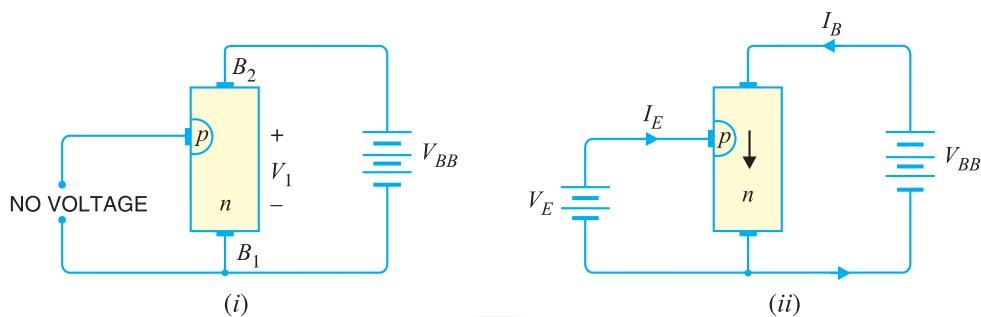

Fig. 21.25
Operation. Fig. 21.25 shows the basic circuit operation of a unijunction transistor. The device has normally B_2 positive w.r.t. B_1 .
- (i) If voltage V_{BB} is applied between B_2 and B_1 with emitter open [See Fig. 21.25 (i)], a voltage gradient is established along the *n*-type bar. Since the emitter is located nearer to B_2 , more than **half of V_{BB} appears between the emitter and B_1 . The voltage V_1 between emitter and B_1 establishes a
(ii) If a positive voltage is applied at the emitter [See Fig. 21.25 (ii)], the *pn* junction will remain reverse biased so long as the input voltage to the emitter exceeds V_1 . If the input voltage to the emitter exceeds V_1 , the *pn* junction becomes *forward biased. Under these conditions, holes are injected from *p*-type material into the *n*-type bar. These holes are repelled by positive B_2 terminal and they are attracted towards B_1 terminal of the bar. This accumulation of holes in the emitter to B_1 region results in the decrease of resistance in this section of the bar. The result is that internal voltage drop from emitter to B_1 is decreased and hence the emitter current I_E increases. As more holes are injected, a condition of saturation will eventually be reached. At this point, the emitter current is limited by emitter power supply only. The device is now in the *ON* state.